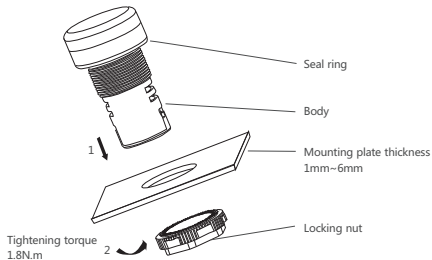

Figure 2 Installation diagram
3) See Figure 2 for installation diagram.